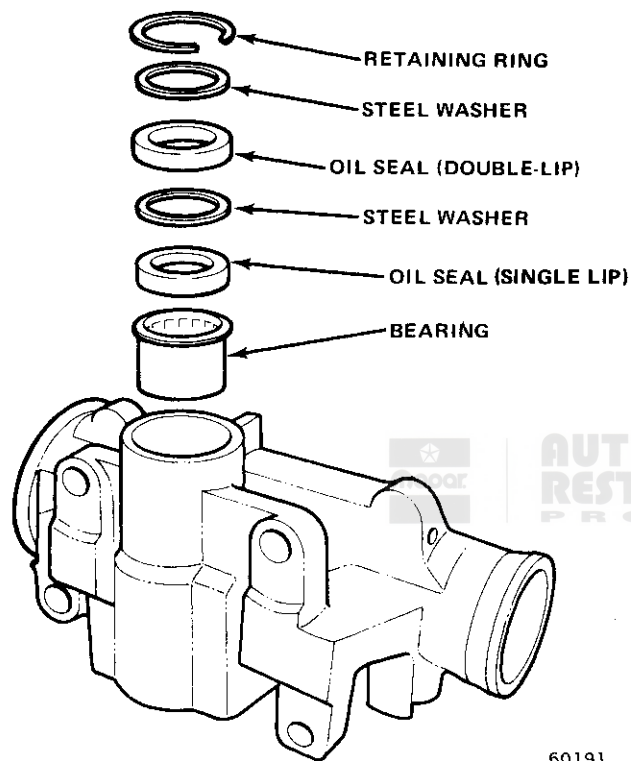

Fig. 2L-17 Pitman Shaft Bearing and Seals
- (2) Remove steel washer (fig. 2L-17).
- (3) Remove backup washer and double lip seal (fig. 2L-17). Use screwdriver to pry seal out of bore. Discard seal.